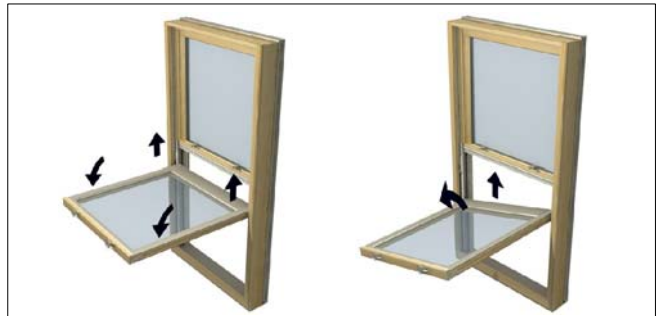

Figure 3
3. Ease top of sash towards you to a horizontal position. Lift both sides of the sash upward 2"-3" (51-76) (separating the pivot pins from the clutches). Rotate the sash counterclockwise until pins clear the jambs and remove the sash. See figure 3.